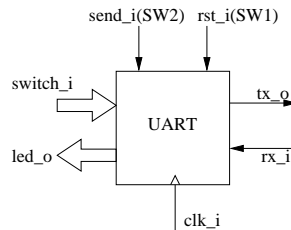

Figure 2.2: The UART.
The system clock is running at 40 MHz. You will need a reset-signal and a send-signal, see Figure 2.2. Both these signals are active-high.
- send an ASCII-coded character from the DIP switch to the PC by pressing the switch SW2, see Figure 2.2.
- catch the incoming characters from `rx_i` and present the ASCII code on the LED display, see Figure 2.2.